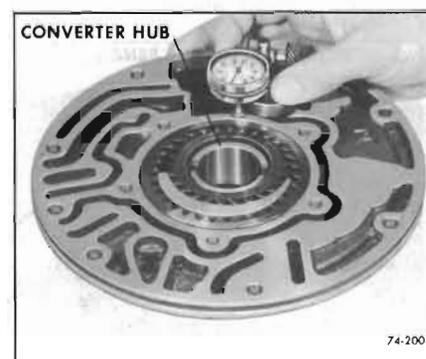

Figure 74-200
a. Install pump on converter hub. With dial indicator set check end clearance. The clearance allowed is .0005/.0035. See Figure 74-200.